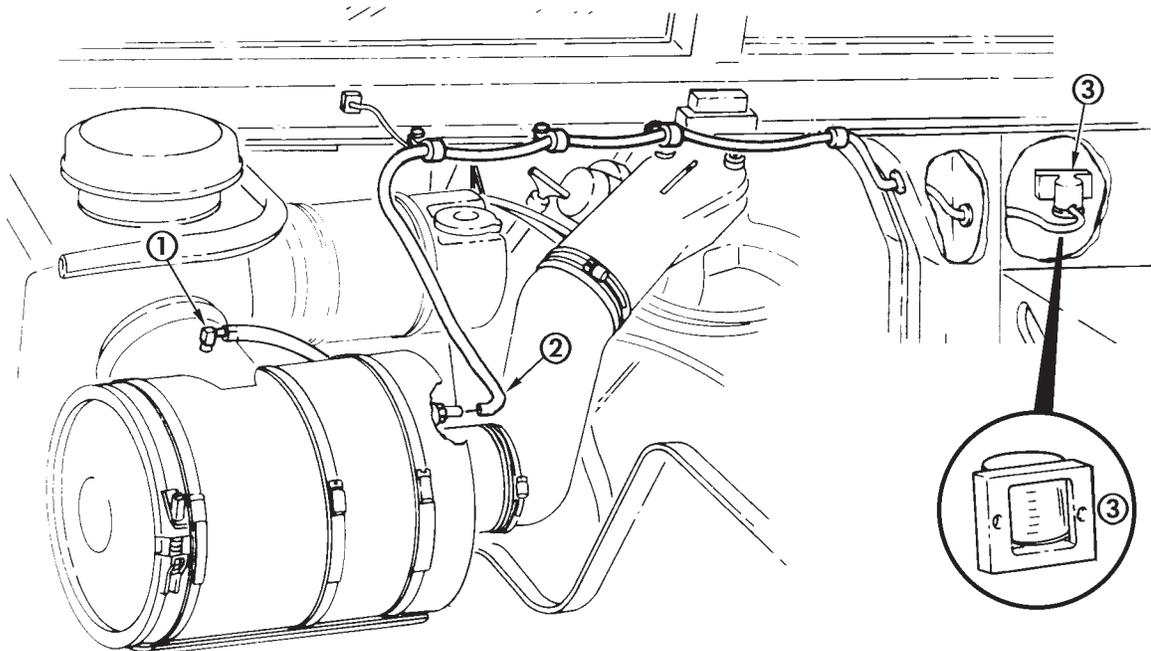

Figure 2-1. Manometer Intake Restriction Test.
### A. MANOMETER INTAKE RESTRICTION TEST (Figure 2-1)
Connect manometer tube to air cleaner vent line (1) pipe (Fig. 2-1). Run engine at approximately 1000 RPM. Water travel should not exceed 3 inches of water travel. If water travel exceeds 3 inches, check for restriction in air intake system.